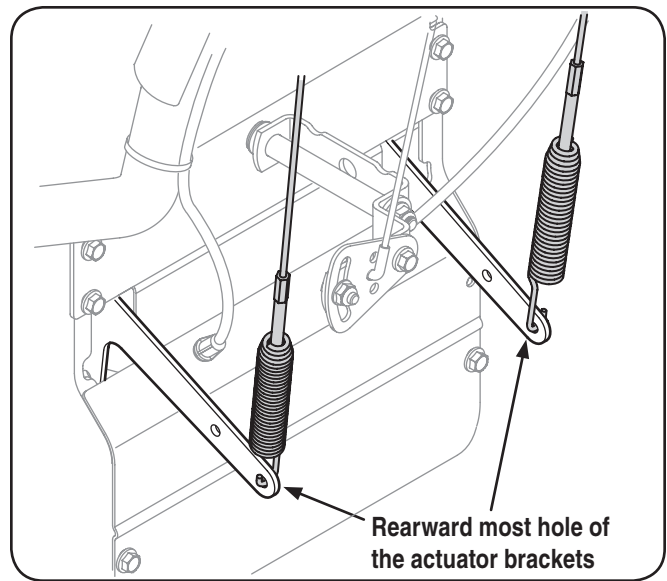

Figure 3-10
3. Looking beneath the handle panel, check that all of the cables (steering, auger, shift, and drive) are properly routed and not pinched or kinked. Make certain the springs at the lower end of the auger and drive cables are securely hooked into their respective actuator bracket. See Fig. 3-10.